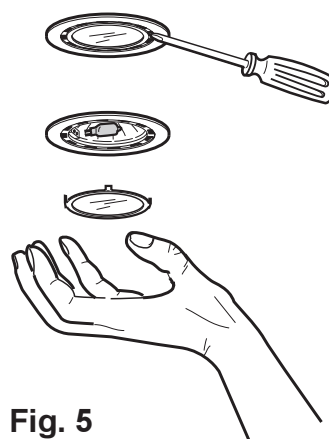

Fig. 5
- Remove the lamp cover, use a screw driver as a lever. **Fig. 5**.